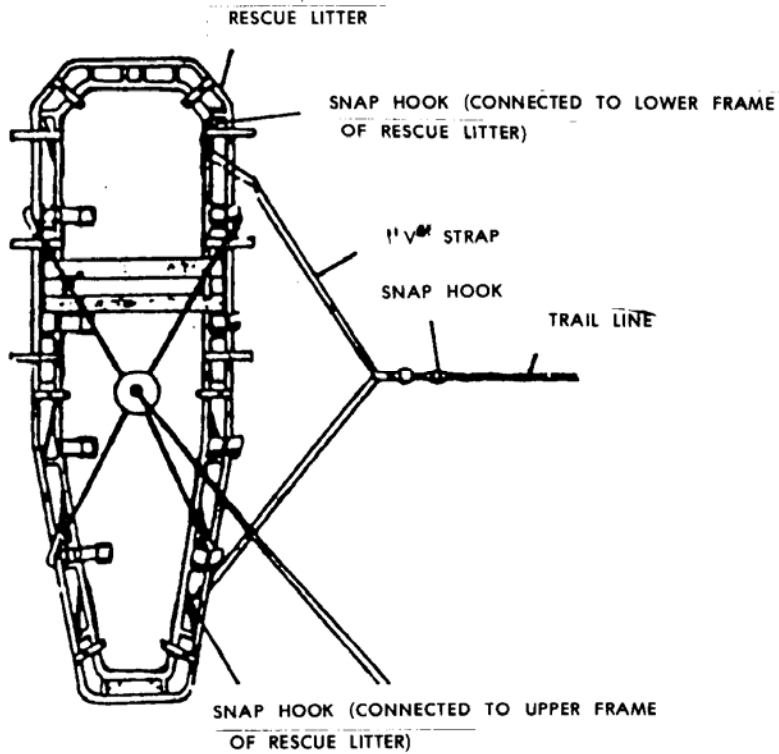

Figure 5-16. Tag line keeping Stokes litter steady.
- c. Once the ground personnel have the tag line, the operator lowers the Stokes litter (figure 5-16).